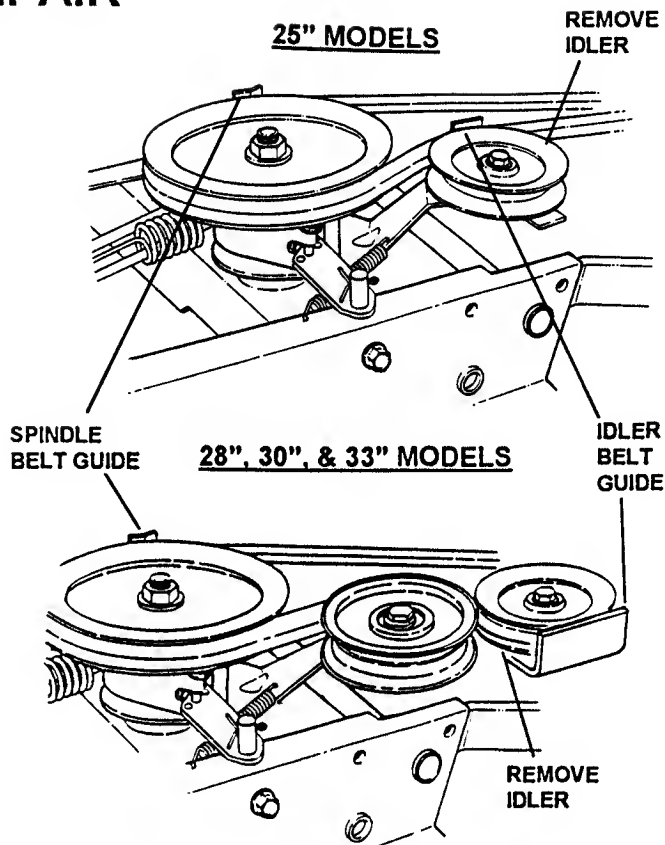

FIGURE 4.24
2. Move transmission shift lever to the neutral (N) position.
4. Route new belt through engine belt guide (engine belt guide shown in Figure 4.24) to engine pulley. Route belt as shown for the individual models shown in Figure 4.23.